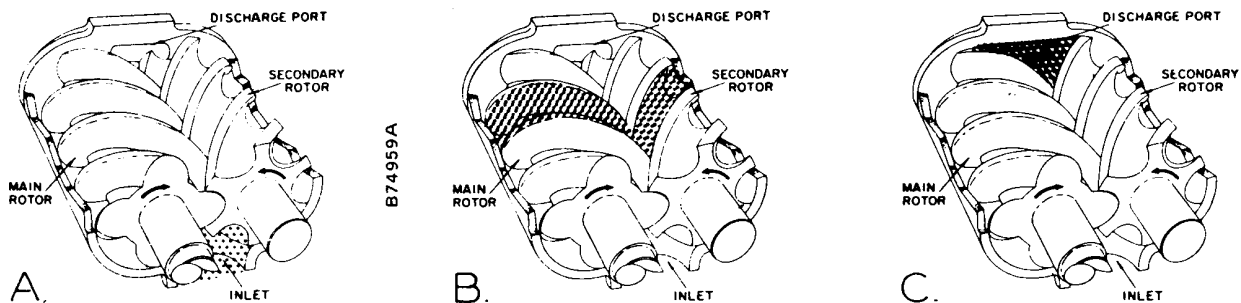

Figure 1-1 – COMPRESSOR CYCLE
COMPRESSION PRINCIPLE (Figure 1-1) - Compression is accomplished by the main and secondary rotors synchronously meshing in a one-piece cylinder. The main rotor has four (4) helical lobes 90° apart. The secondary rotor has six (6) matching helical grooves 60° apart to allow meshing with main rotor lobes.
The air inlet port is located on top of the compressor cylinder near the drive shaft end. The discharge port is near the bottom at the opposite end of the compressor cylinder. *FIGURE 1-1 is an inverted view to show inlet and discharge ports.* The compression cycle begins as the rotors unmesh at the inlet port and air is drawn into the cavity between the main rotor lobes and the secondary rotor grooves (A). When the rotors pass the inlet port cutoff, air is trapped in the interlobe cavity and flows axially with the meshing rotors (B). As meshing continues, more of the main rotor lobe enters the secondary rotor groove, normal volume is reduced and pressure increases.